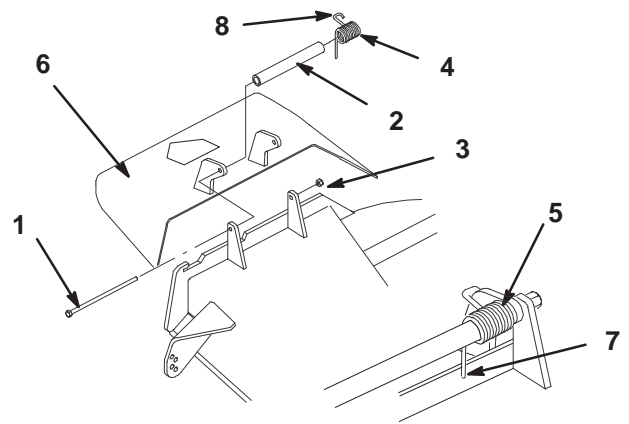

Figure 72
1. Remove the locknut, bolt, spring and spacer holding the deflector to the pivot brackets (Fig.72). Remove damaged or worn grass deflector.
Note: Make sure the straight end of spring is installed behind deck edge before installing the bolt as shown in figure 72.
3. Install bolt and nut. Place hook end of spring around grass deflector (Fig.72).